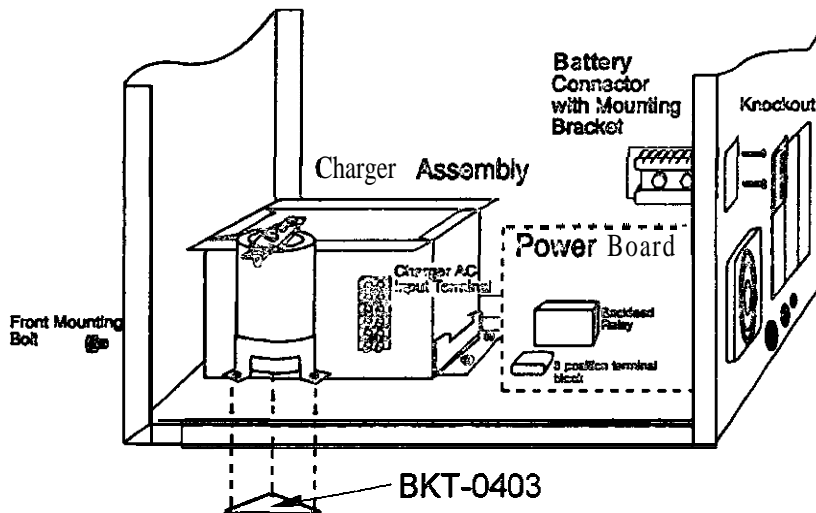
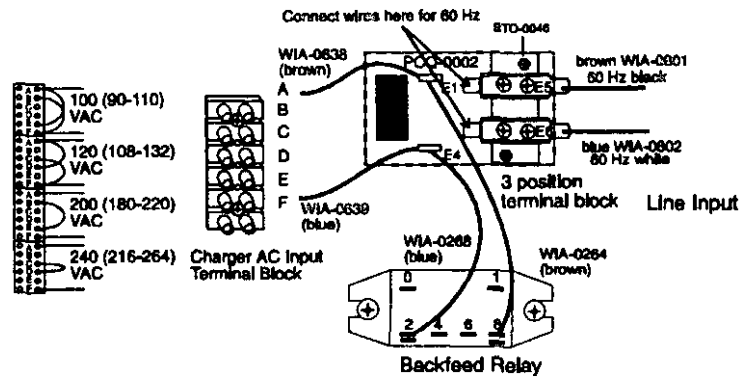

Figure 2
Figure 4
202-2. Mount **the** red termination bracket to **the** top of **the** capacitor. (See Figure 2.)
202-3. Tilt the unit up slightly and place **the** triangular bracket up **through the** bottom of the chassis. (See Figure 2.)
202-4. Mount the DC filter capacitor to the chassis. (See Figure 2.)
202-5. Remove **the** knockout for **the** external battery connection and mount **the** battery connector mounting bracket with **two** (2) 6-32x3/8 screws. Mount the battery connector with **two** (2) 1/4-20x 1 3/8 bolts and **two** (2) 1/4-20 hex head keps nuts. (See Figure 2.)
301. Locate **the** 15-amp charger assembly provided. Mount **the** charger assembly using **two** (2) 1/4-20x 1 carriage bolts up **through the** bottom of **the** chassis and **secure** with **two** (2) 1/4-20 hex head keps nut. Install the **front** 1/4-20x1 hex head mounting bolt. (See Figure 2.)
302. **FE 60 Hz units:** Mount the three (3) position terminal block **with two** (2) nylon standoffs. (See Figure 2 and Figure 4 on page 4; Figure 4 shows **the** terminal block **connections** for 50 Hz units.) Connect **the** linecord at **the** terminal block line input. Connect **the** wires shown to E1 and E4 **directly on the** terminal block. Connect the wires to **the** correct charger AC input **terminals** based on the nominal AC input voltages shown on the charger silkscreen label.
QFE 50 Hz units: Connect the wires provided as shown in Figure 4.
403. Install the new **linecord**. Connect the **linecord** to the terminal **strip**. (See Figure 4.)